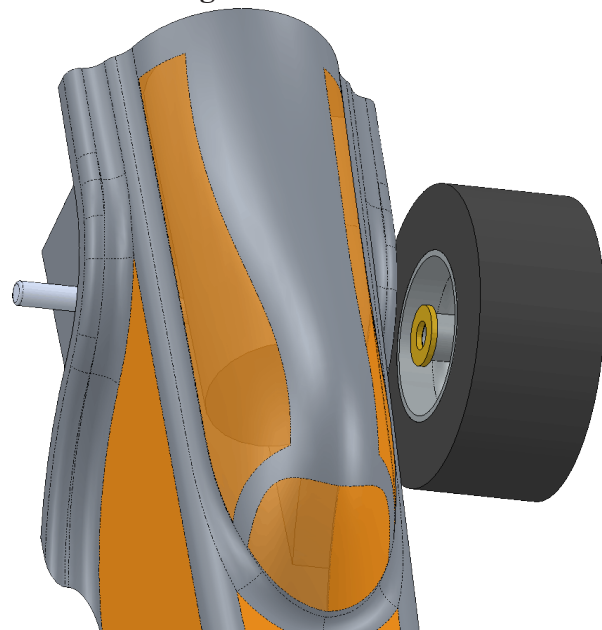

Fig. 16
Step 6. Click Add/Finish Mate  in Mate pop-up toolbar to add a **Coincident** mate, **Fig. 16**.